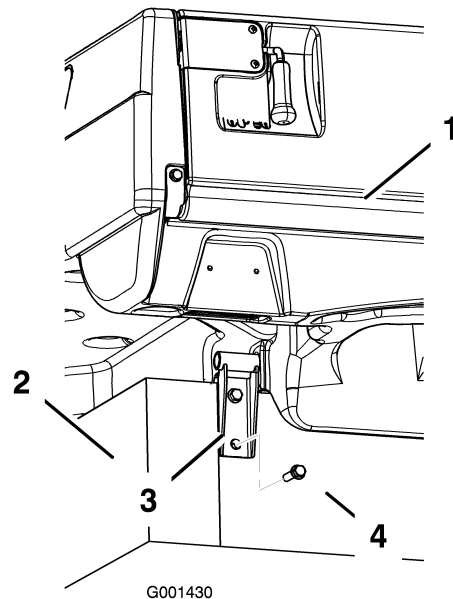

Figure 18
8. Place the bed on top of the frame. Install the hinges to the bed (Figure 18). Use the bolts removed previously to secure the hinges to the frame.